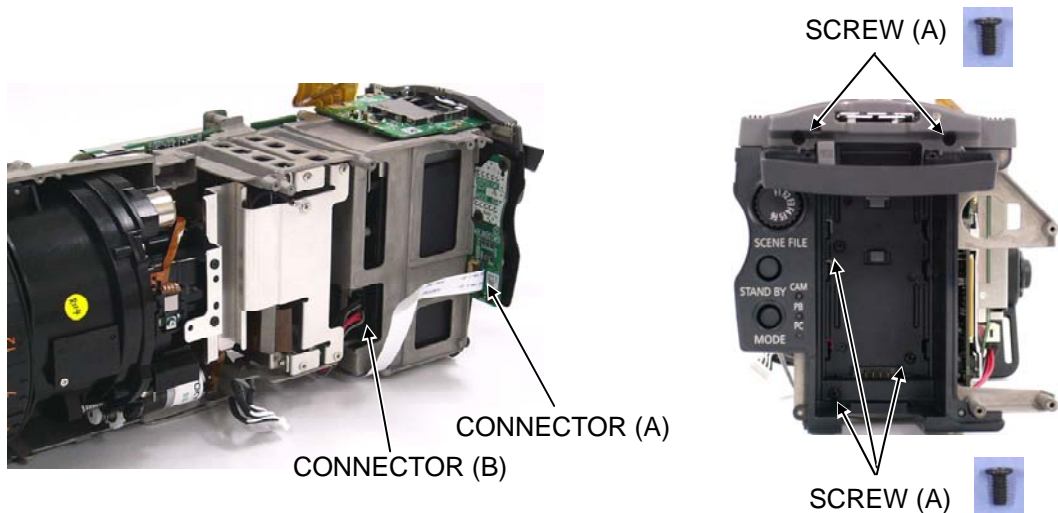

Figure 15-1
5. Disconnect the connector (A) and (B) as shown in figure 15-1.
6. Unscrew the 5 screws (A) and remove the Back Case Ass'y as shown in figure 15-1.